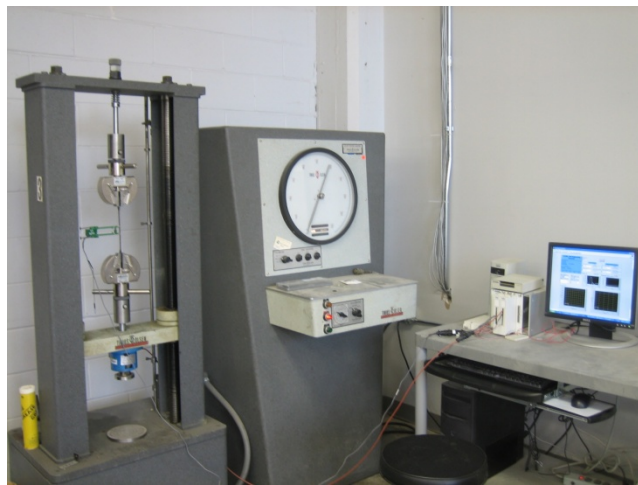

Figure 1.1.1. Lab setup
- *Tinius-Olsen* load frame (Figure 1.1.1)